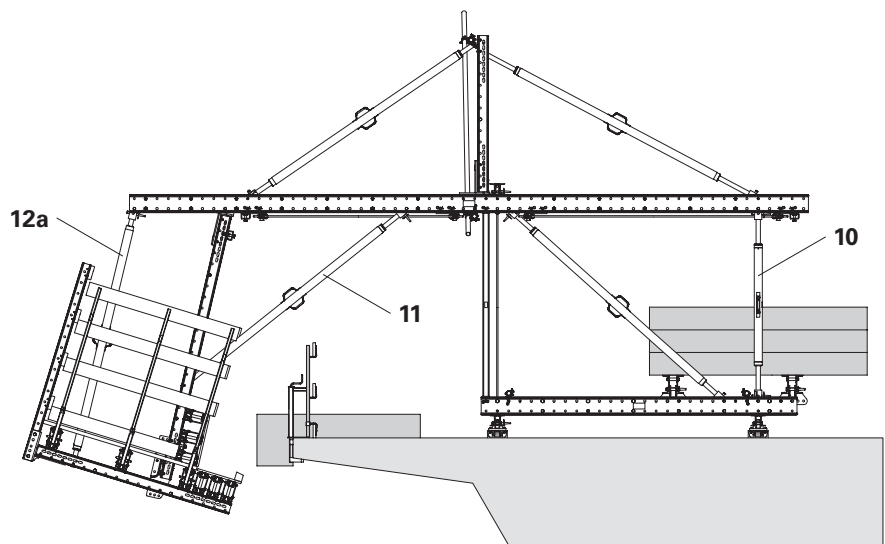

Fig. A1.01
Before moving the carriage, the formwork must be released from the building by turning the Heavy-Duty Spindles SLS (10) and (11) or (12a). (Fig. A1.01)